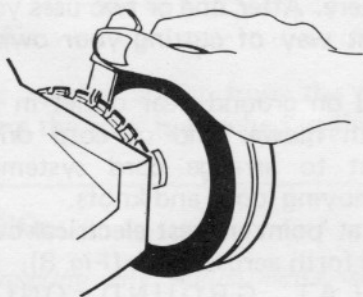

Figure 9
3. Support weight of mower with one hand. With other hand grasp wheel and lever (Fig. 9), pressing lever with thumb toward wheel. Move lever and wheel to desired position. Release and repeat on other wheels.